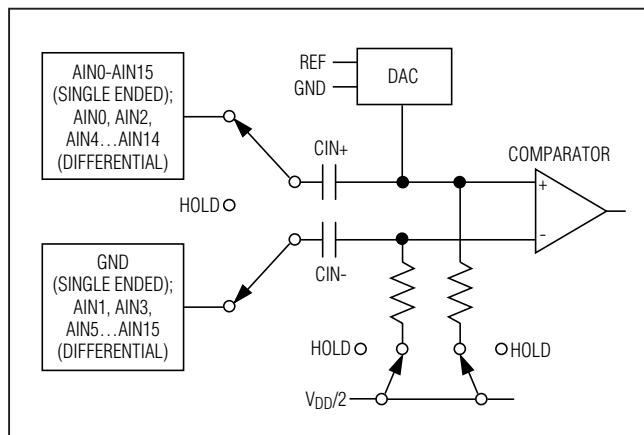

Figure 3. Equivalent Input Circuit
**Note 6:** See Figure 3 (Input Equivalent Circuit) and the Typical Operating Curve in the *Sampling Error vs. Source Impedance* section.
The MAX1227/MAX1229/MAX1231 use a fully differential ADC for all conversions. The analog inputs can be configured for either differential or single-ended conversions by writing to the setup register (see Table 3). Single-ended conversions are internally referenced to GND (see Figure 3).
The equivalent circuit of Figure 3 shows the MAX1227/MAX1229/MAX1231's input architecture. In track mode, a positive input capacitor is connected to AIN0-AIN15 in single-ended mode (and AIN0, AIN2, AIN4...AIN14 in differential mode). A negative input capacitor is connected to GND in single-ended mode (or AIN1, AIN3, AIN5...AIN15 in differential mode). For external T/H timing, use clock mode 01. After the T/H enters hold mode, the difference between the sampled positive and negative input voltages is converted. The time required for the T/H to acquire an input signal is determined by how quickly its input capacitance is charged. If the input signal's source impedance is high, the required acquisition time lengthens. The acquisition